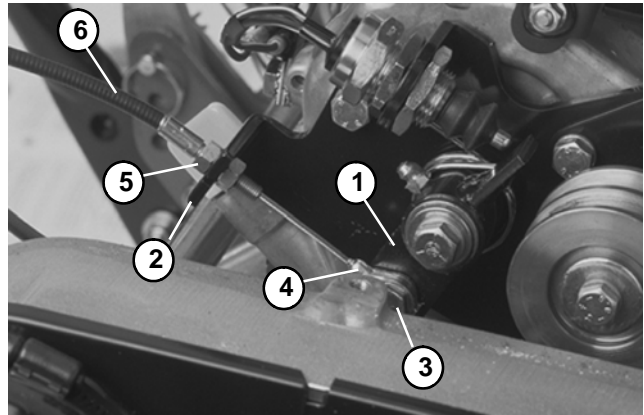

Figure 7
3. Remove clutch cable from the bellcrank assembly as follows (Fig. 7):
5. Run new clutch cable to the bellcrank assembly. Install new cable to the clutch lever as follows (Fig. 7).